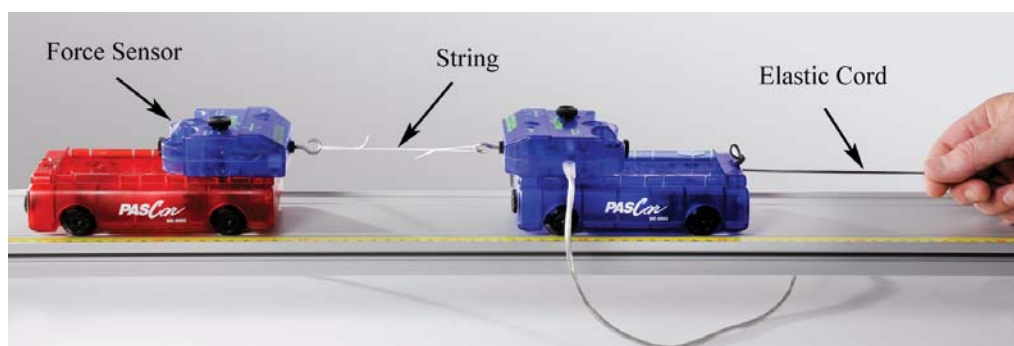

Figure 1: The two carts are accelerated to the right by pulling on the elastic cord.
11. Cut a piece of string about 25 cm in length. Tie non-slip loops on each end, with the final length of the string about 10 cm to 15 cm. This string connects the two Force Sensors, as shown in Figure 1.
12. Cut a piece of elastic cord about 30 cm long. Attach one end to the blue cart as shown in Figure 1.